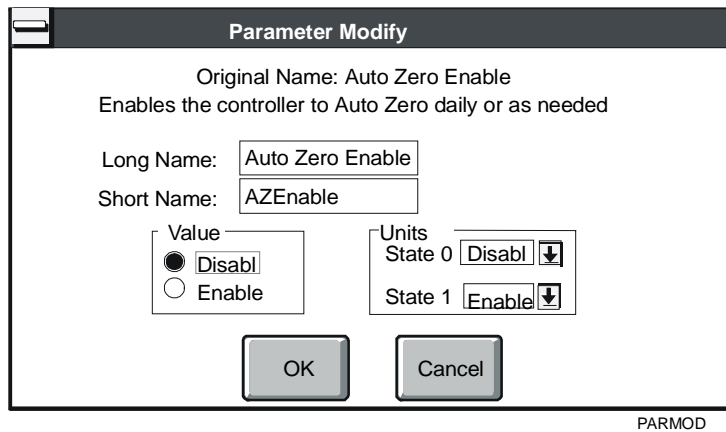

Figure 9-3: Binary Parameter Modify Dialog Box
1. Double-click on the parameter you want to change. HVAC PRO software displays a Parameter Modify dialog box for the parameter you have selected (Figure 9-3).